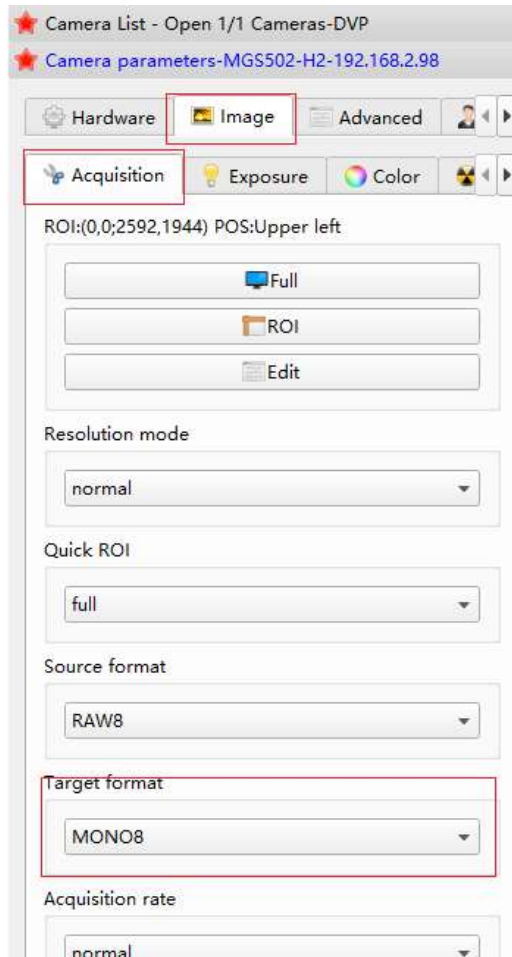
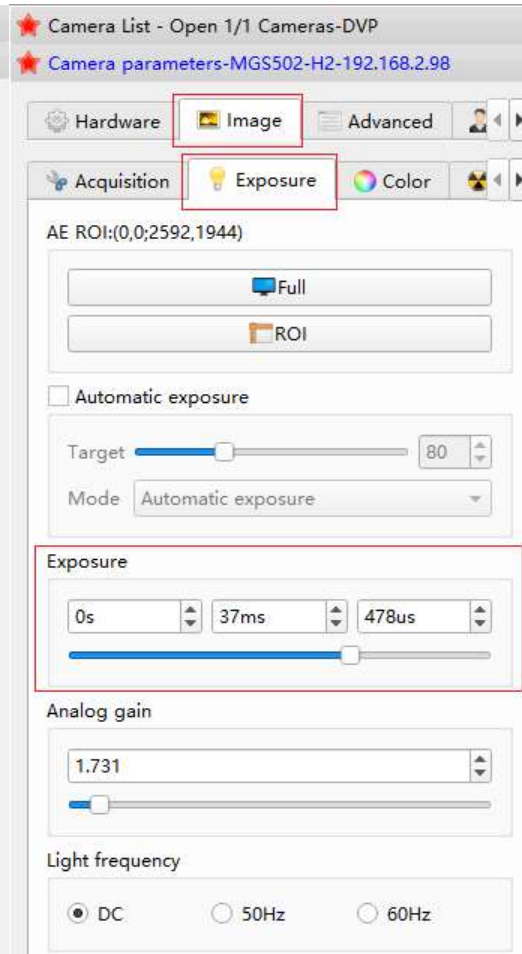

Figure 2.3.6
Figure 2.3.7
Step 3: Set the camera exposure parameter and image format, as shown in Figure 2.3.6 and Figure 2.3.7;